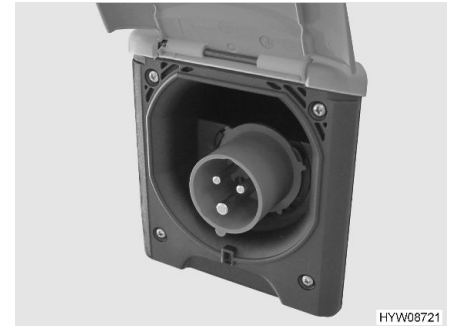

Fig. 71 240 V connection on the vehicle (CEE socket outlet)
- Open the cover of the 240 V connection on the vehicle (Fig. 71) and insert the plug connector. Ensure that the detent of the spring-mounted pivoting cover is engaged in position.